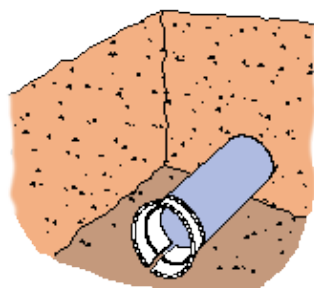

Figure 6- Protection from Existing Main
1. Protect the PE pipe to be inserted from sharp edges of the existing parent main at each point of entry, see Figure 6.